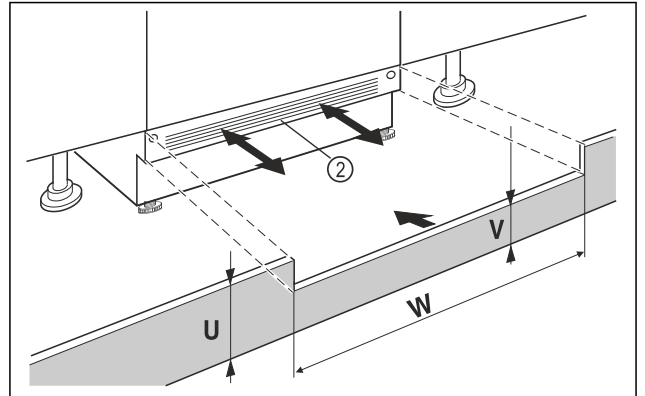

Fig. 59 Example illustration
- ▶ Put on the appliance base cover Fig. 59 (2) but do not fix it in place yet.
- ▶ If the base panel is visible Fig. 59 (2), pull it forwards so that the front edge of the ventilation grille and the unit base panel are level.
- ▶ If the base panel is concealed Fig. 59 (2), push it all the way back.
- ▶ Ensure that the ventilation slots are completely free: If necessary, cut the height of the unit base panel Fig. 59 (U) to size!
- ▶ Adjust the web height Fig. 59 (V) under the appliance base panel Fig. 59 (2) along the niche width Fig. 59 (W).